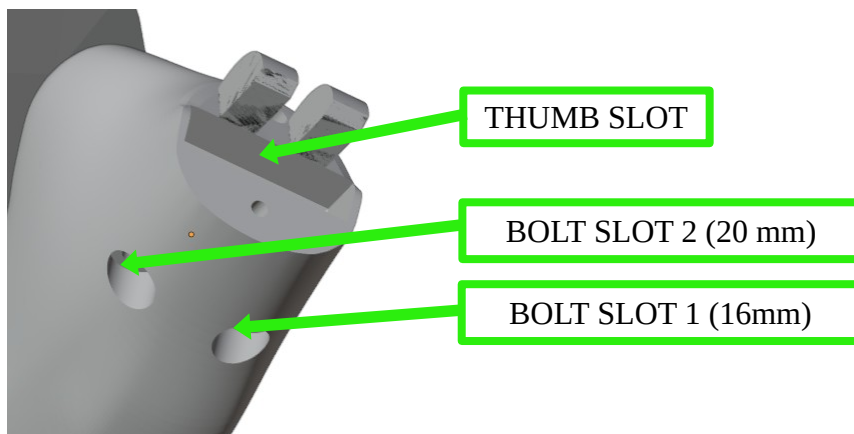

Figure 5.17: Thumb slot and bolt slots
1. Insert the finger into the slot (figure 5.17)
2. Insert two bolts from behind (figure 5.17)